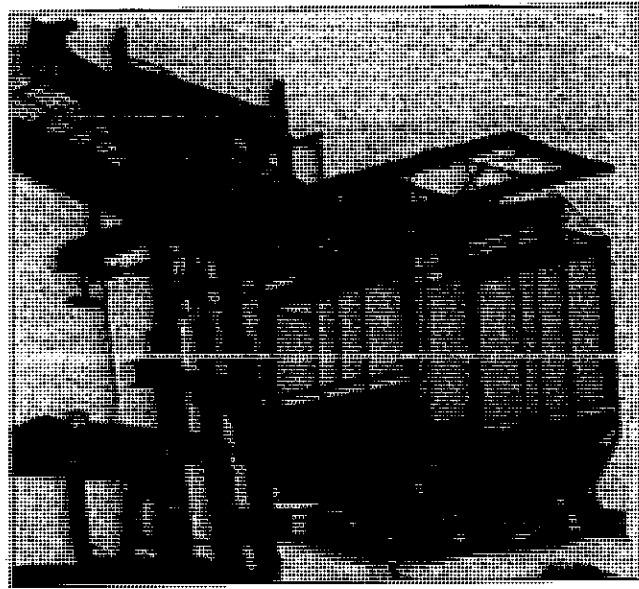

FIGURE 47 - LIFTING TANK ASSEMBLY
Pick up tank assembly and set in place on frame (see Figure 47). For lifting, placing chain hooks in top tank tube ends works well. Use the six (6) 1/2" x 1-3/4" carriage bolts, six (6) 1/2" flat washers, six (6) 1/2" lock washers and six (6) 1/2" nuts provided to secure tank in place. *Slide tank as far right and forward as possible and square up to frame.* Tighten hardware.